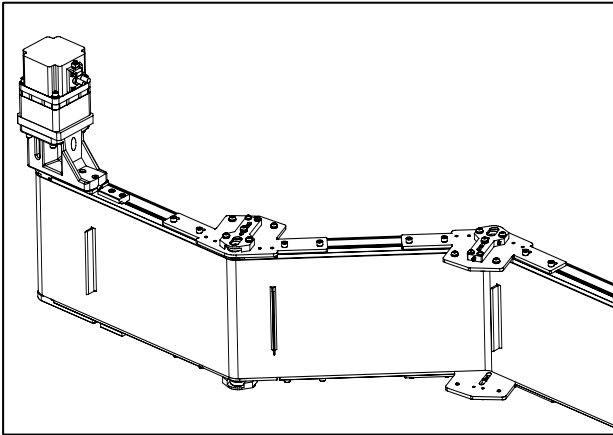

Figure 11
j. The conveyor may then be placed on its side; but should be placed on the side opposite of which the drive package is mounted (Figure 11).